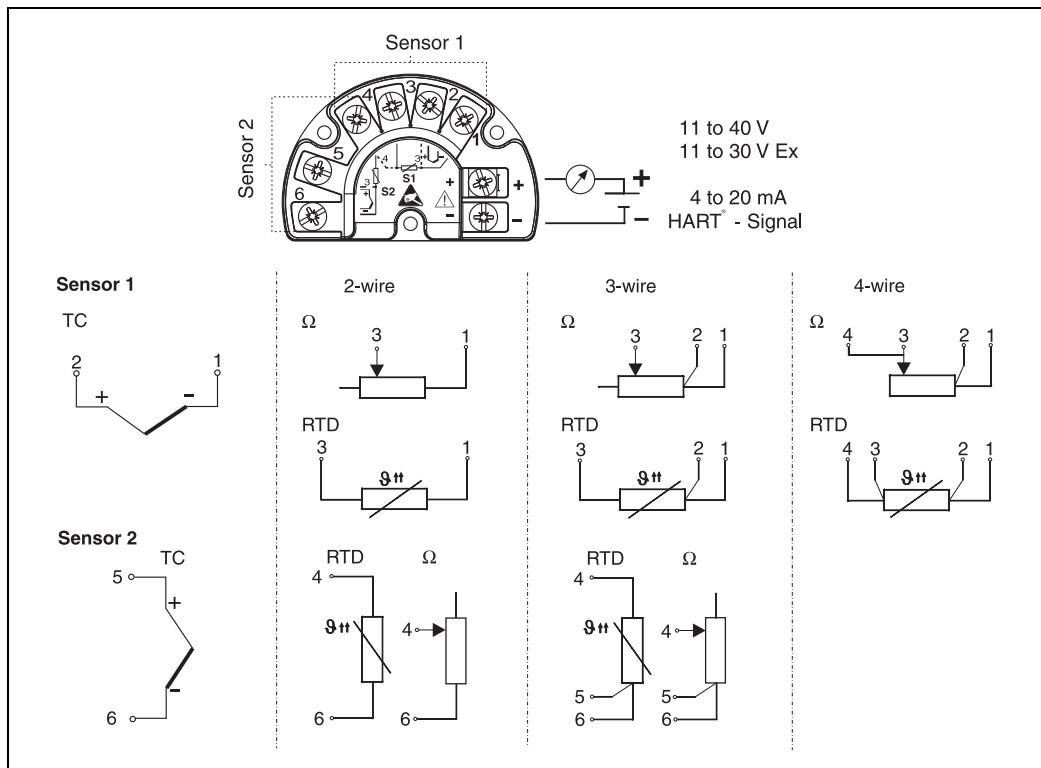

Fig. 5: Wiring the field transmitter
3. Connect the leads as shown in Fig. 5.
For sensor connection terminal layout please see Fig. 5. On two sensor inputs the following connection combinations are possible:
Have the cables been correctly connected? Compare with the connection schematic on the terminals or see Fig. 5.	See connection schematic on the housing
The setup and measured value read out of the measuring device is done using the HART® protocol. The digital communication is done using the 4 to 20 mA current output HART® (see Figs. 5 and 6). There are a number of possible setup methods available to the user: